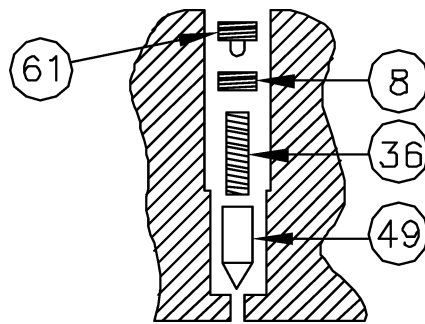

FIGURE 9
2. With the pump securely held in a soft jaw vise, remove the locking screw 61 and adjusting screw 8 (see Figure 9).
1. Install PSI valve 49 in the pump cavity and place the PSI spring 36 in the bore of the PSI valve (see Figure 9).